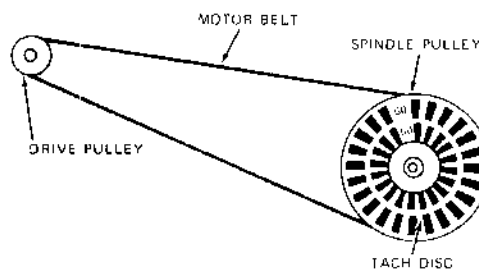

FIGURE 4. MOTOR SPEED ADJUSTMENT
- Turn the pot R-12 located on the motor control PCB until the dark lines on the spindle pulley appear motionless. For 60 HZ use the outside ring of lines for 50 HZ observe the inside ring. Reference figure 4.